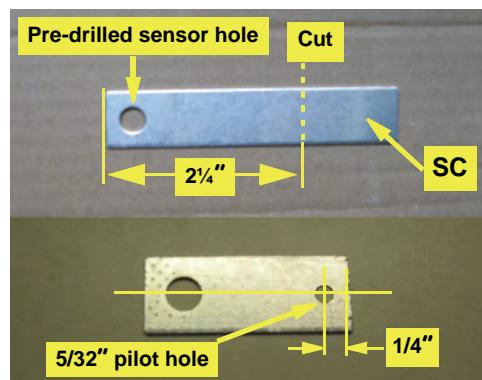

Figure 1c: Cut and drilled sensor bracket
- Cut the aluminum sensor bracket **SC** $2\frac{1}{4}$ " from the end with the pre-drilled sensor mounting hole (Figure 1c - top), then drill a $5/32$ " pilot hole on the centerline of the bracket. Drill the hole so that its center is $1/4$ " from the cut end (Figure 1c - bottom).